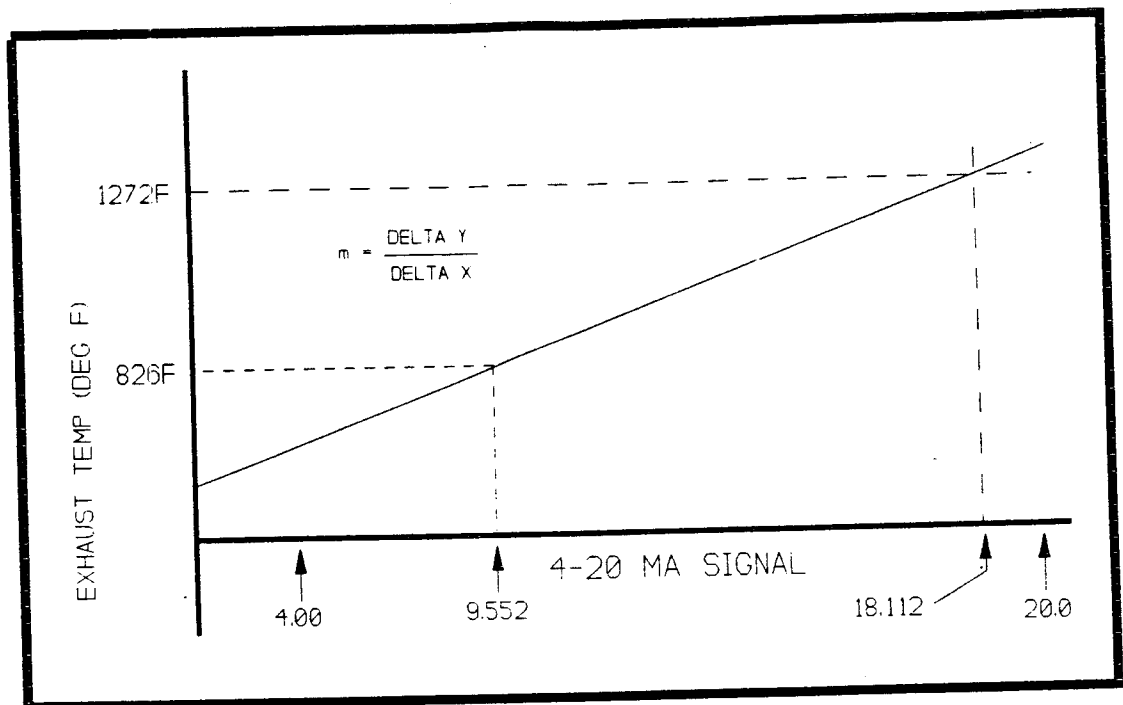

FIGURE 8.7: A MORE REALISTIC CASE...
2) Calculate the slope of the line (refer to FIGURE 8.7):